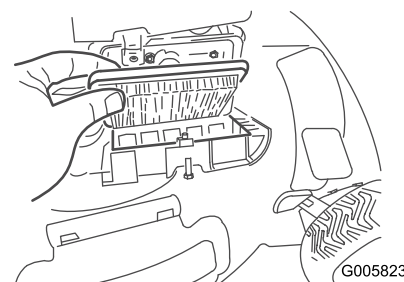

Figure 35
3. Replace the air filter (Figure 35).